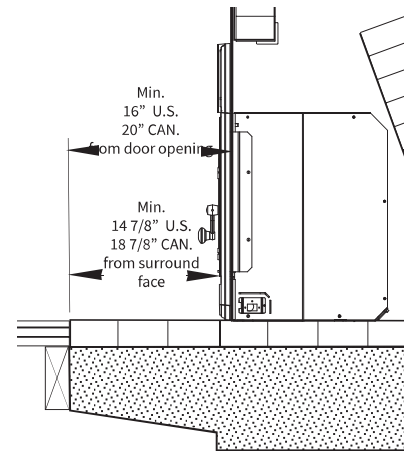

Figure 76. Required hearth protection when hearth is flush with combustible floor materials.
U.S: Front - The protection must extend at least 16 inches (406 mm) forward from the door opening as in Fig. 76. (14 7/8" from Surround surface).